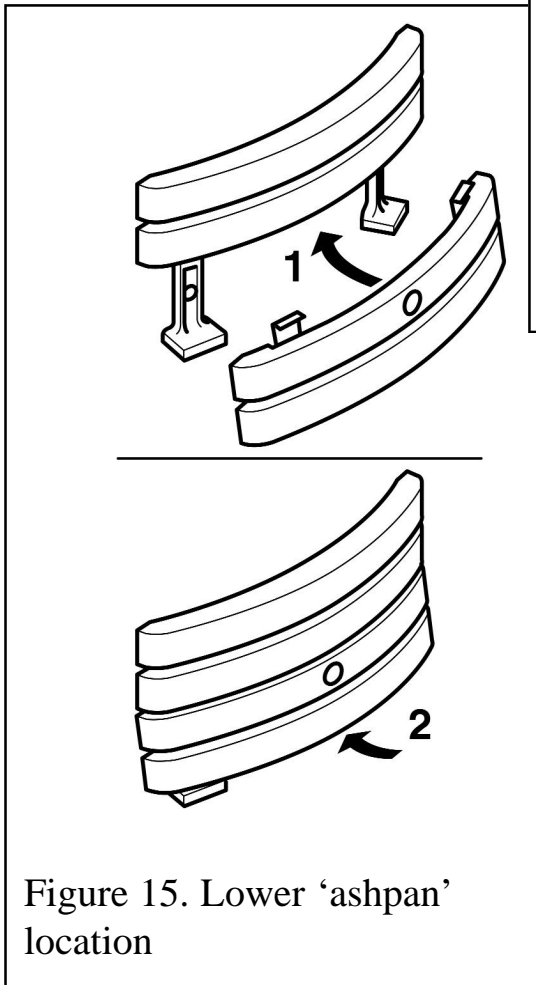

Figure 15. Lower 'ashpan' location
4. The lower 'ashpan' casting should be located as in figure 15.